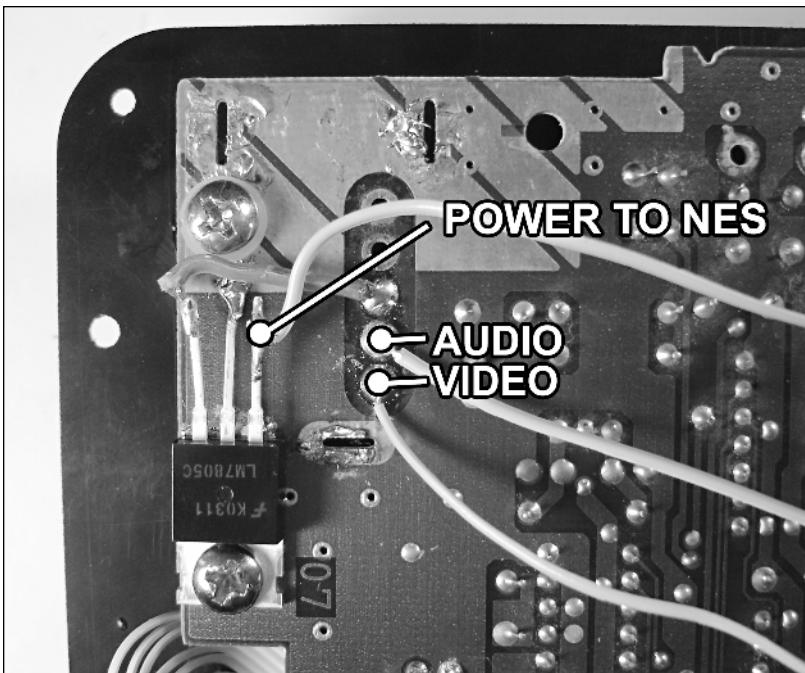

FIGURE 8-37: Attaching audio, video, and power to the NES board.
4. Look back at the NES board near the 7805 regulator. Attach the three wires from the front of the case to the NES board as in Figure 8-37. *Power to NES* comes from the power ON/OFF switch, *Video* connects to the *Video in from NES* wire from the control board, and the *Audio* wire comes from the TV's lower circuit board.